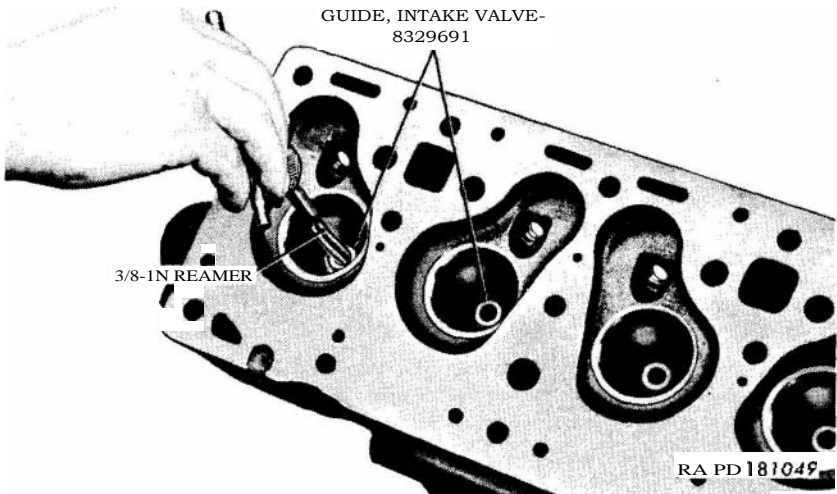

Figure 38. Reaming intake valve guide.
- thicker of the two flat adapters of the remover and replacer 41-R-2379-25 onto the end of the driver and drive the guides into the block until the adapter seats against the top of the cylinder block. When properly positioned, the top (tapered) end of the guide is exactly 1 inch below the level of the top of the block (fig. 29). Run a $\frac{3}{8}$ -inch reamer (fig. 38) through the guides after they have been correctly positioned.
- (6) Use a valve seat grinding tool to grind the exhaust valve seats in the cylinder block just enough to true the seats and to remove pitted or burned areas. Maintain the width of the seats at three thirty-seconds of an inch and not wider than one-eighth of an inch. Upon completion of the valve seat grinding operation, check the valve seats for concentricity. Total, out-of-round of the valve seat, must not exceed 0.002 inch.
- (7) Repair or replace the exhaust valves as instructed in paragraph 87, and then lap them to a perfect seat in the cylinder block exhaust valve seats.
- (8) Force flush the exhaust valves and the cylinder block with cleaning fluid under pressure, or high **pressure** steam, to
- (d) Run a $\frac{3}{8}$ -inch reamer through each intake valve guide after completion of the installation (fig. 38). Use care to keep the reamer perpendicular to the head.